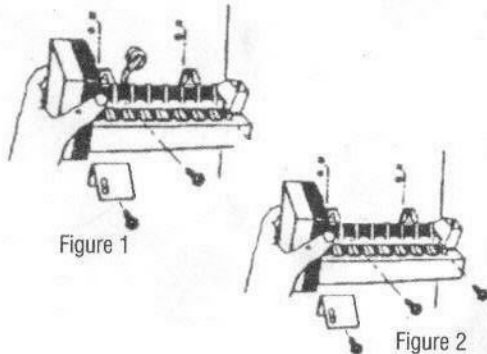
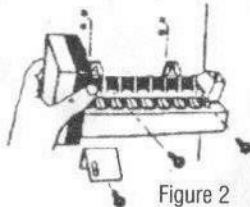

Figure 1
Figure 2
1. Remove defective icemaker from the freezer. Unplug Harness, check existing harness to this kit to make sure you have the correct wiring harness. The Icemaker may have two upper screws and one lower mounting screw (see Figure 1) or two mounting clips with one lower mounting screw (see Figure 2). If you do not have the correct harness, you will need a different icemaker kit. Please contact your dealer for the correct icemaker.